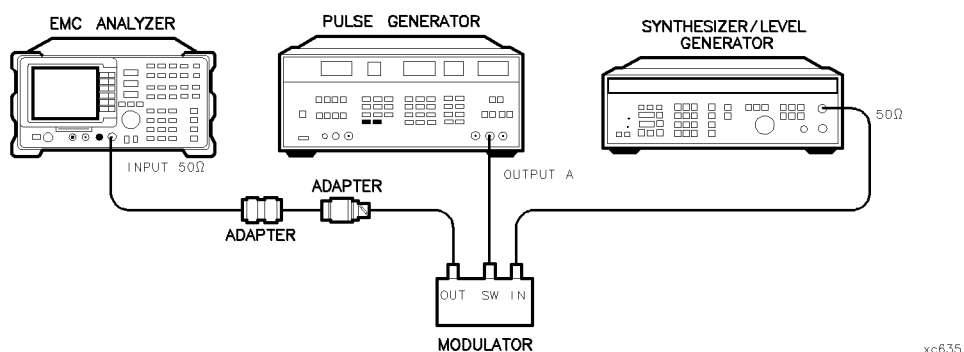

Figure 2-88. Isolation Check Test Setup
11. Connect the equipment as shown in Figure 2-88.